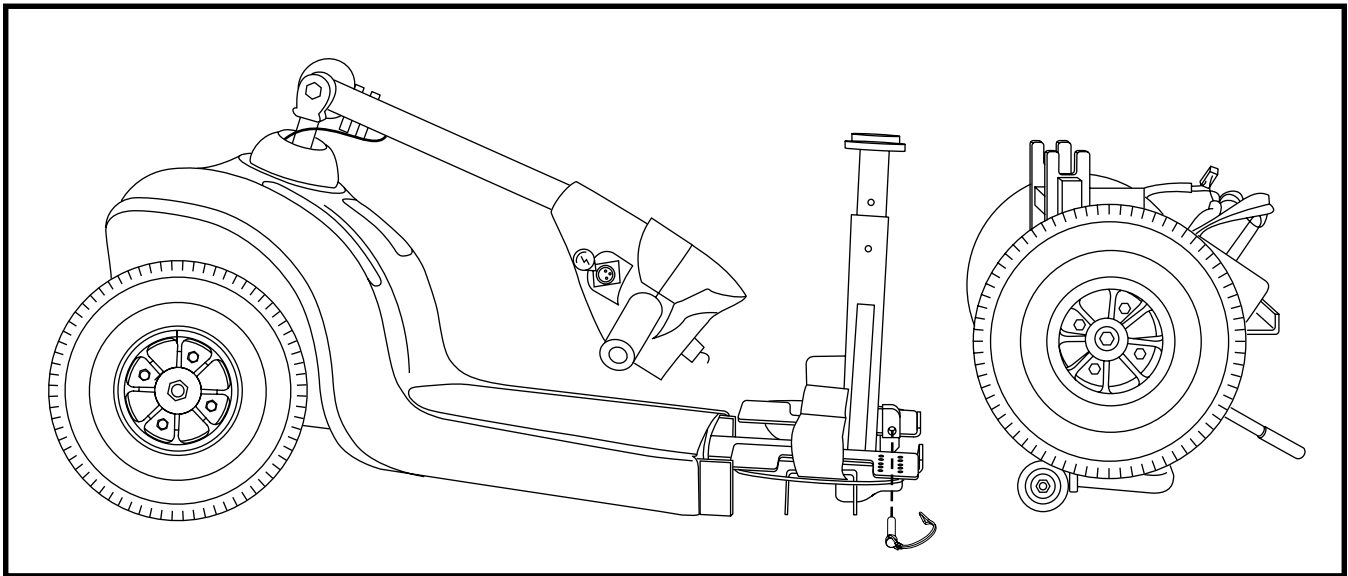

Figure 15. Frame Positioning
1. Position the front and rear sections of your scooter as shown in **figure 15**.